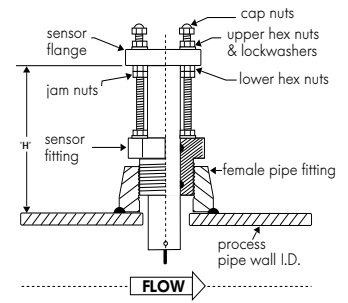

Fig. 7
E. Thread upper hex nuts with lock washers until they contact the sensor flange and tighten. Check for proper "H" dimension and readjust if necessary. (Fig. 7)